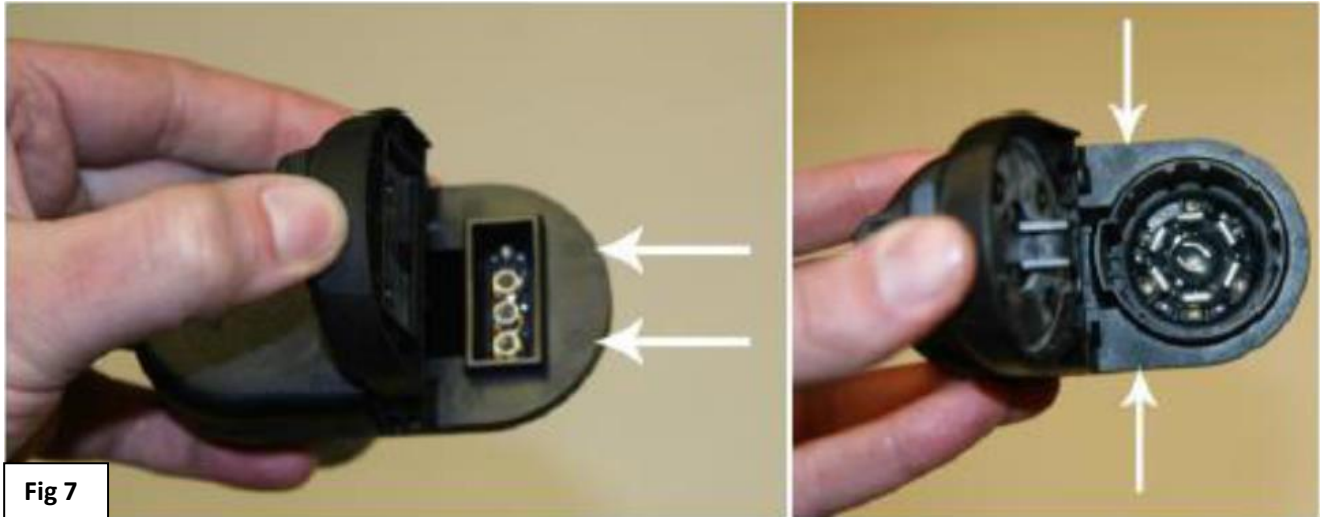

Fig 7
4. Drill The OEM Trailer Hitch Plug using a #16 Dill Bit (.177") in the locations pointed out with arrows below. Use care to drill directly in the center of the circles in the plastic (**Fig 7**).